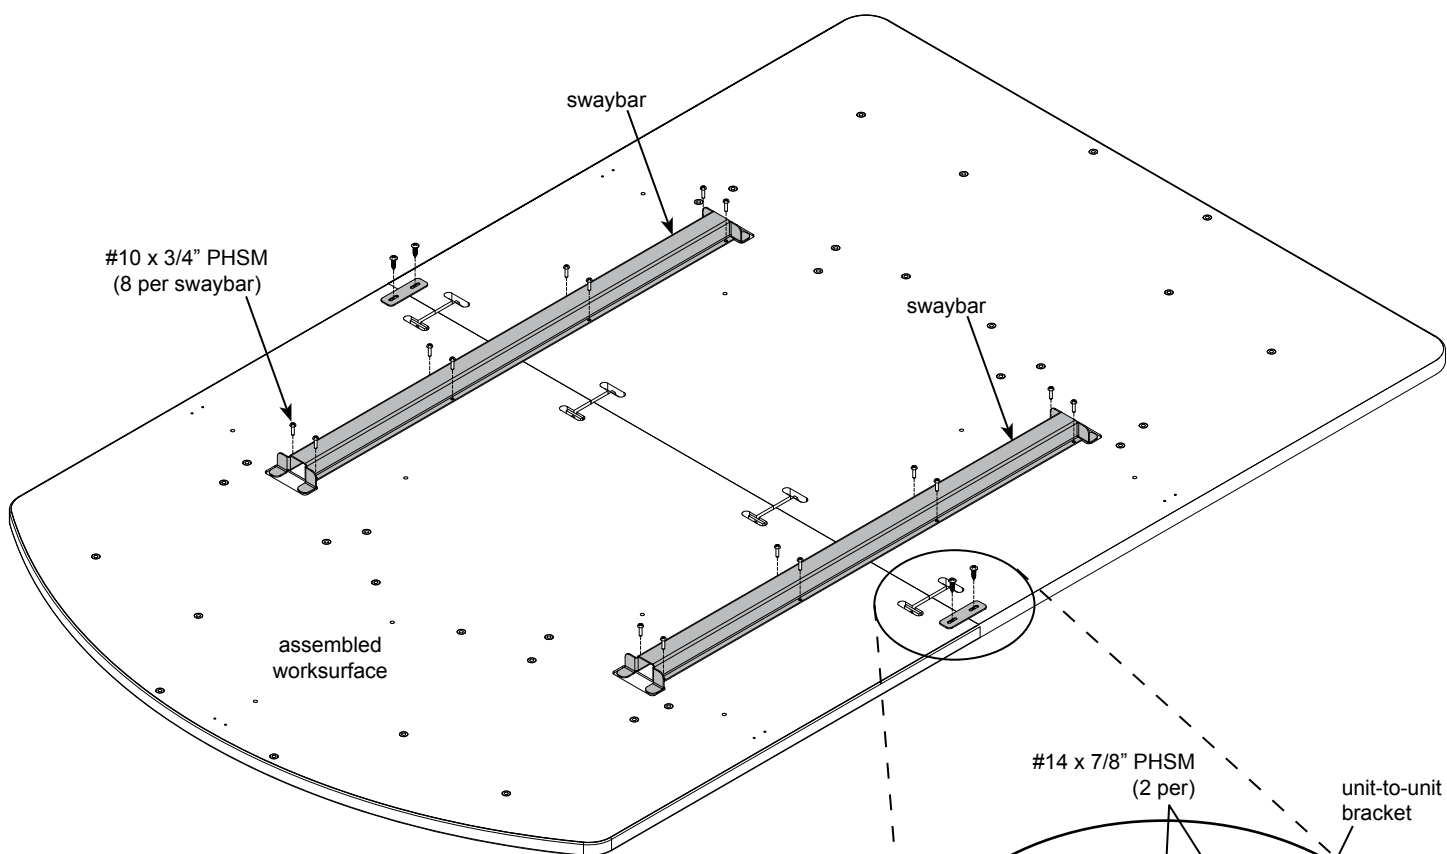

**Figure 4C**
4. When the two worksurfaces are completely together (tight seam), set a draw bolt into each pocket. **Figure 4C**.